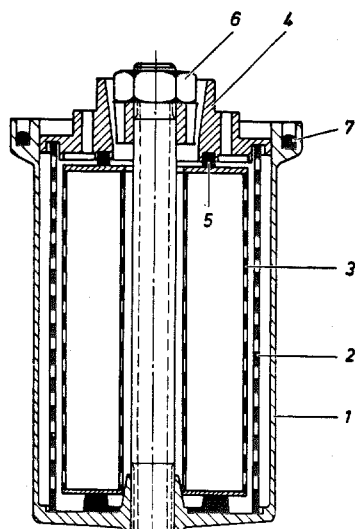

Fig. 18—5/8
2. Take off the nut (6), then take out the discharge ring (4) and the metal filter and fine filter elements (2) and (3) (Fig. 18—5/8).
3. Clean the metal filter element thoroughly inside and outside with a soft brush in clean gasoline (do not use a wire brush) (Fig. 18—5/9). Then blow out with compressed air from the inside and check to ensure that all the interstices are perfectly clean. If the metal filter element is damaged, it must be replaced.